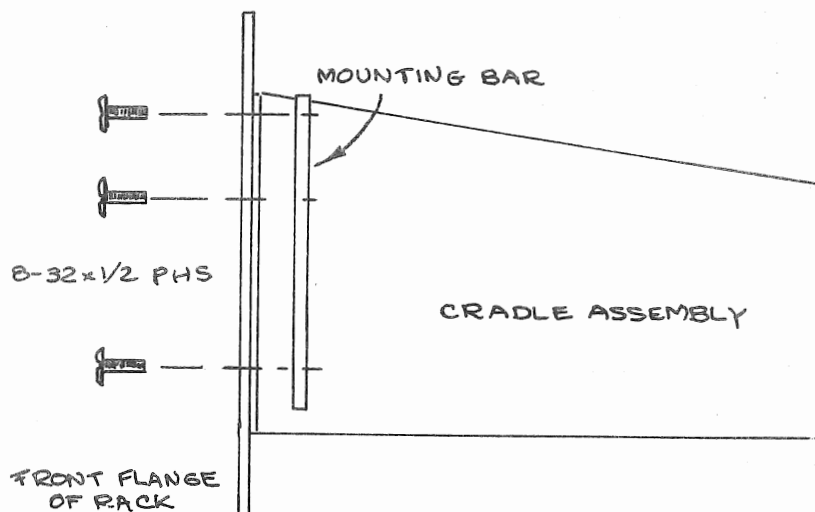

Fig. 2
- ( ) 2. Fasten each side of the cradle assembly to the front flange of the relay rack with three 8-32 x 1/2 PHS screws from the kit (Fig. 2). Each mounting bar is fastened to the cradle by a single 4-40 screw, allowing it to be adjusted for slight variations in rack width.
Install the Relay Rack Cradle Assembly as shown in Fig. 2 on fold-out page.
- a) Fig. 2 shows two sets of mounting dimensions: for 7 and 8-3/4 in. front panels.
- ( ) 2. Using Fig. 2 as a guide, mount the brackets and slide-out tracks on the front rails of the relay rack. Use the screws supplied with the kit and the slide-out tracks.